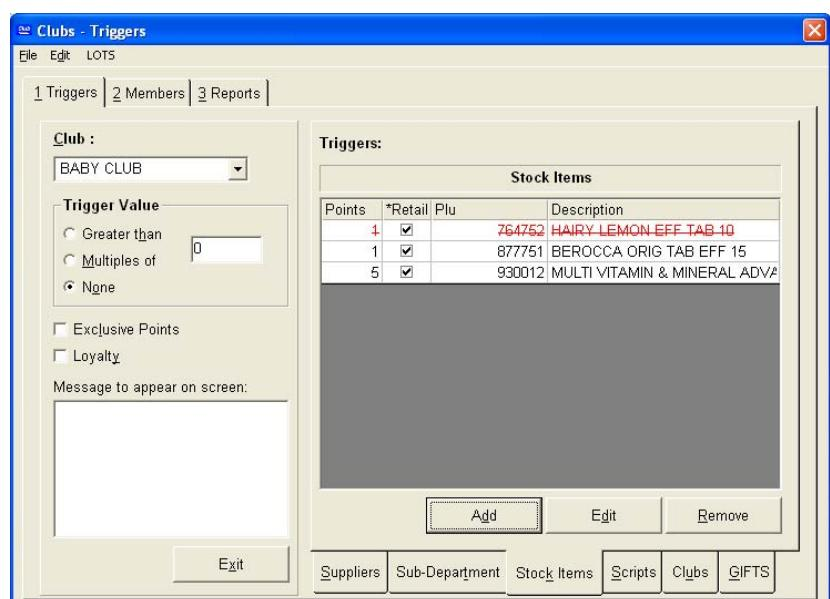

Figure 377
11. The excluded stock item will be shown in red strikethrough text (see Figure 377).